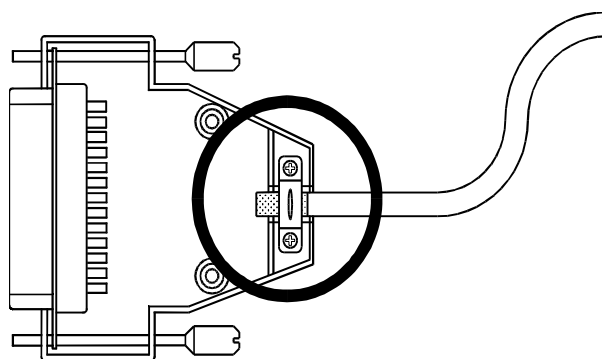

Fig. 1: Shielding in Conformity with EMC Standards
- When **using connectors**, metallised connectors are to be used only, e.g. SUB-D connectors with metallised housing according to Fig. 1. Make sure that the strain relief is directly connected with the housing here as well.